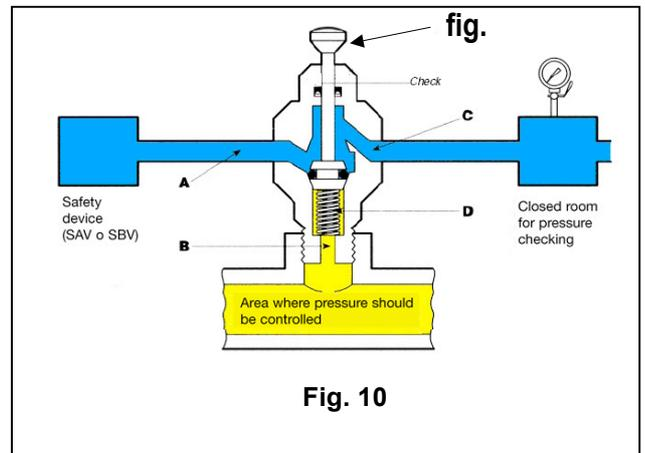

Fig. 10
A) For the slam-shut devices connected to the downstream piping through the "push" three-way switch valve, proceed as follows (Fig. 10):